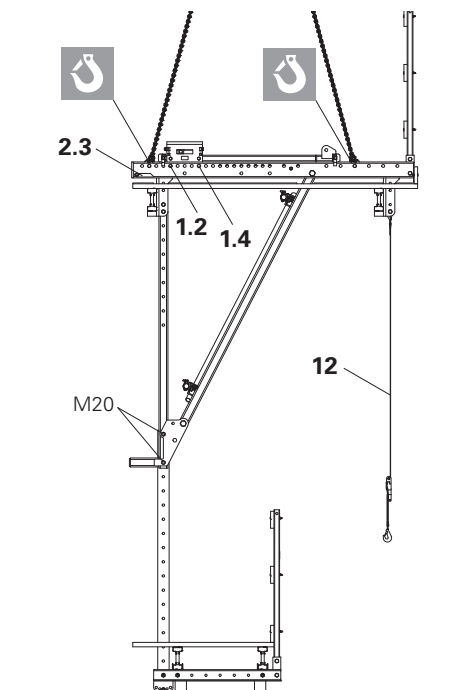

Fig. A6.02
1. Release Tension Belt (12).
- (Fig. A6.02)